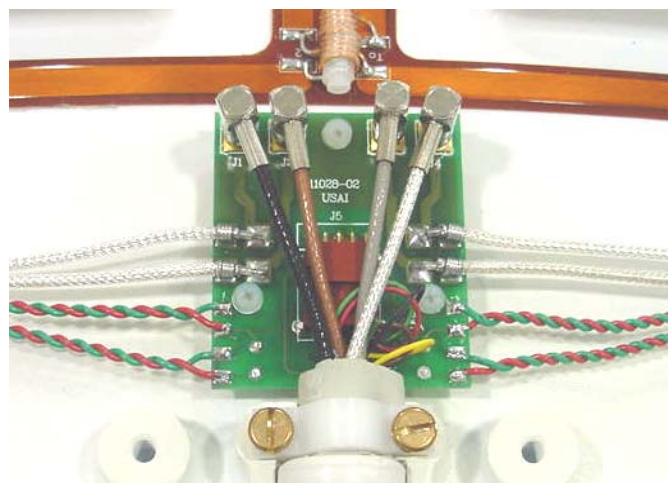

Figure 15: Posterior SMB connector assembly.
Step 5 – Fix a new cable assembly on the posterior section of the coil and reattach the cable lock with two screws. Connect all four SMB connectors and the DC Plug to the corresponding receptacles on the interface board (see *Figure 15*).